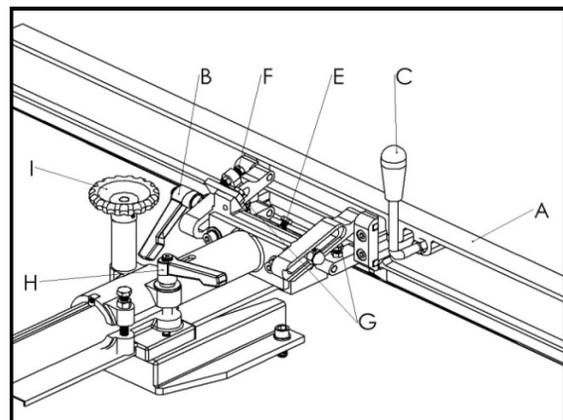

Fig.5
Adjusting fence angles, (refer to Fig. 5)
1. Loosen handle (B), hold knob (C) to open an iron plate at 90 degree.
2. Pull fence (A) backward to obtain the required angle.
3. Locking handle(B). Limitation of fence tilting backward is at the 135° positions. Screw (E) as shown in Fig. 5 is for stopping the fence tilt.
4. The fence is at the stop of 90°; adjust screw (F) for vertical position.
5. Two screws (G) under sliding support are for tilting forward to 45° position as shown in Fig. 5.
1. Loosen handle (H) Fig. 5
2. Adjust handwheel (I) to meet the position required.
3. Lock handle (H) to fasten fence.